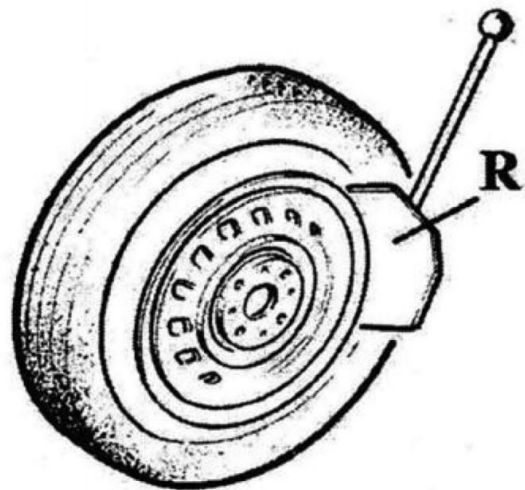

Figure10
- ✧ As shown in Figure 10, make the pressing-tire spade R close to the rim edge for